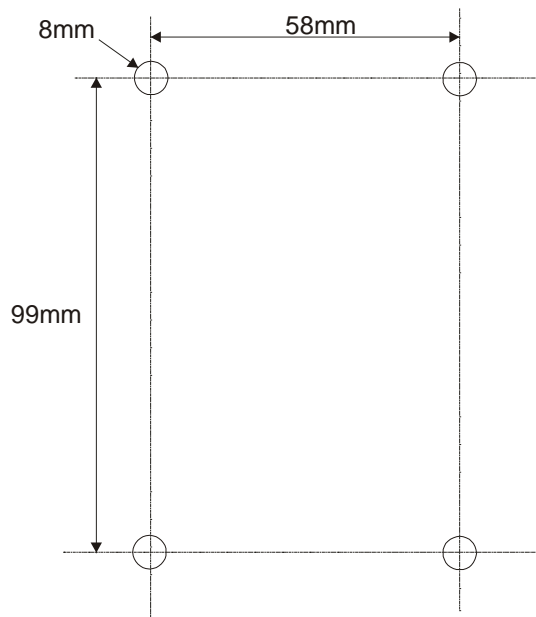

Figure 4-12: BSR mounting bracket dimensions for the four fixing holes
2. Attach the mounting bracket to the wall using four screws. The fixing dimensions for the mounting bracket is illustrated in Figure 4-12